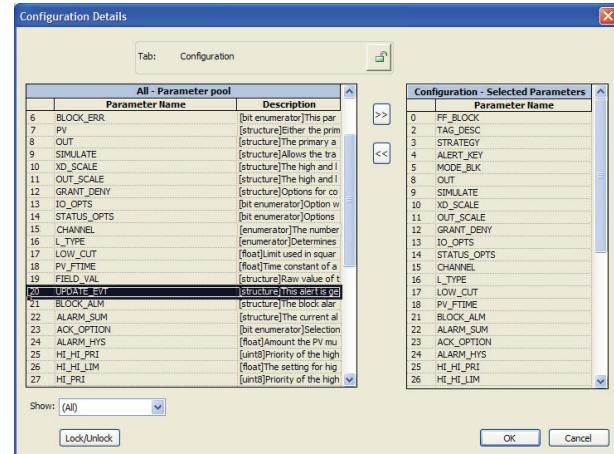

Figure 7. Creating a Custom Diagnostics Tab
- ▶ Creation of new tab pages in any block view (Figure 7)